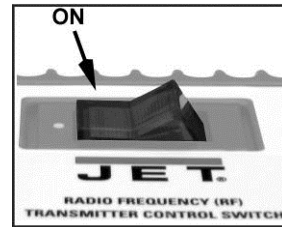

Figure 11A
3. On the main unit place the switch to the *ON* position (Figure 11A). The red LED on the main unit should light up.